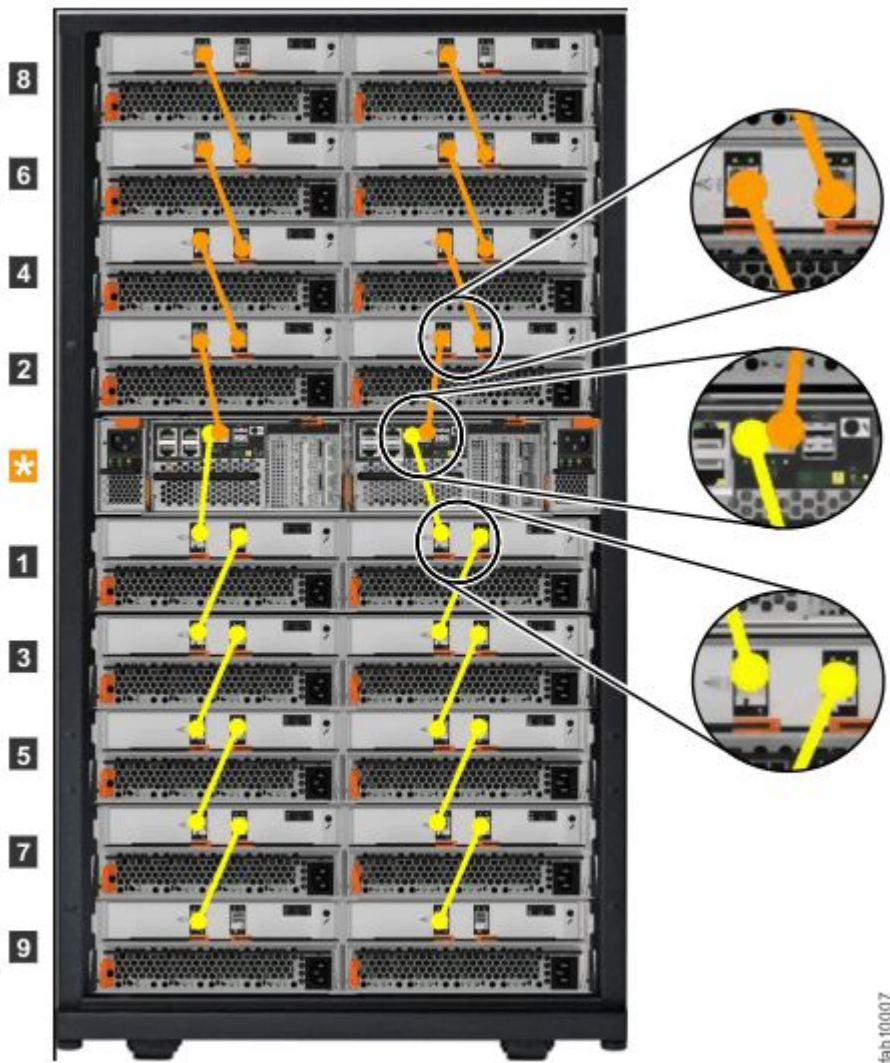

Figure 20. Connecting the SAS cables
- Step 2. To add a second expansion enclosure chain to the control enclosure, use the supplied SAS cables to connect the control enclosure to the expansion enclosure at rack position 2. Refer to Figure 20 “Connecting the SAS cables” on page 22 for an example.
- Step 3. If additional expansion enclosures are installed, connect each one to the previous expansion enclosure in a chain; use two Mini SAS HD to Mini SAS HD cables, as shown in Figure 20 “Connecting the SAS cables” on page 22.